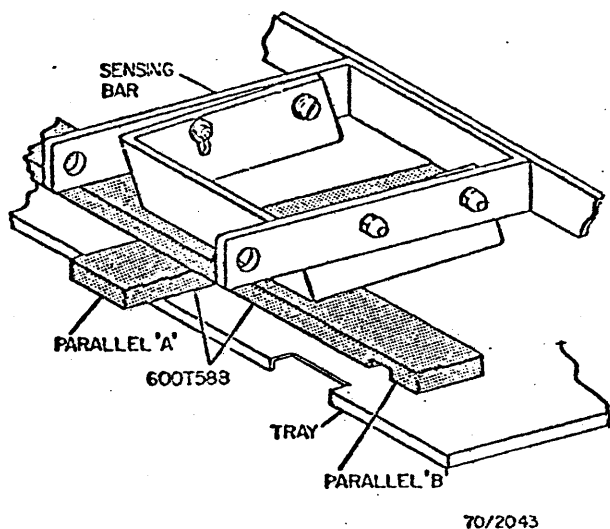

Fig. 3-56. Parallel Bars in Stack Height Position
1. Place the parallel bars on the tray in stack height position (Fig. 3-56).